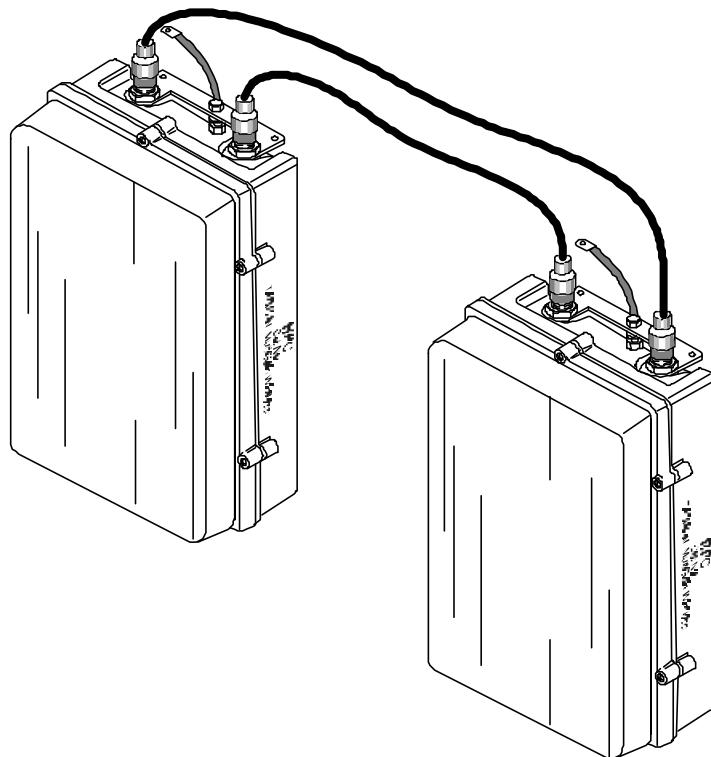
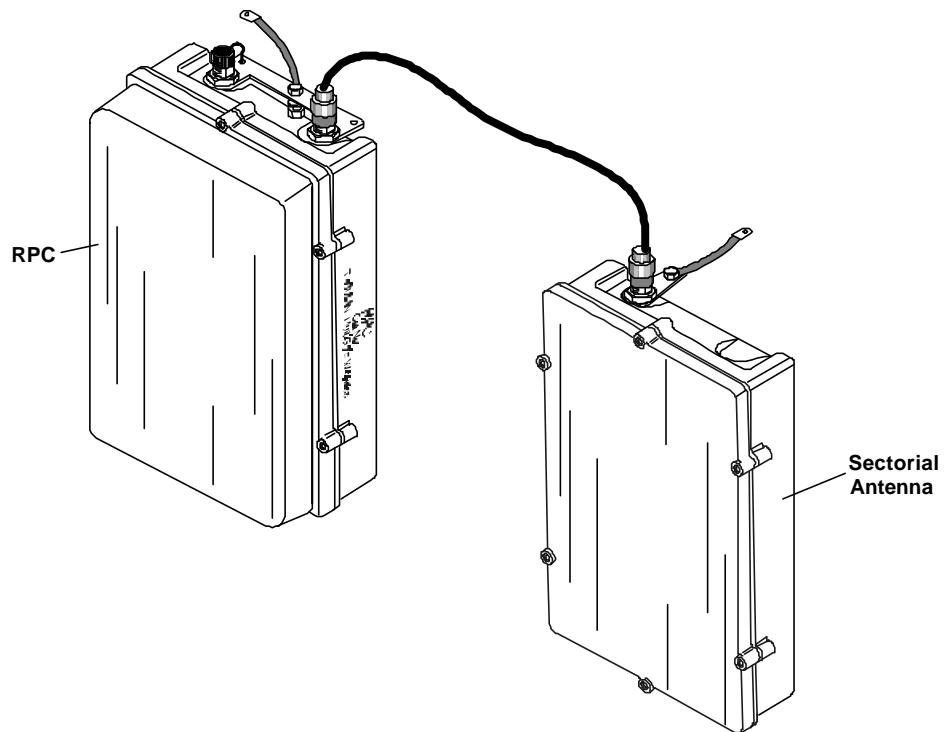

Figure 4-1. Dual RPC Configuration, RF Cable Connections
Figure 4-2. Single RPC Radio Station, RF Cables Connections
Every installation including multiple radio base stations heading in the same direction, includes pairs of RPC's mounted on poles or on towers. The RPC's are interconnected as shown in Figure 4-1.
A single radio base station with space diversity comprises an RPC and a sectorized antenna connected as shown in Figure 4-2.
- One or two pairs of RPC's connected according to Figure 4-1. In this configuration, four RPC's can be attached to the H-support by means of special tilt assemblies, which enable to direct the main beam of the internal antennas in horizontal direction and below the horizontal, up to -18.5°.
- One pair of RPC's connected according to Figure 4-1 and a single-RPC radio station (including an RPC and an external sectorized antenna) connected according to Figure 4-2. In this configuration, the RPC's and the external antenna can be attached to the H-support by means of special tilt assemblies, which enable to direct the main beam of the internal and external antennas in horizontal direction and below the horizontal up to -18.5°, as described in Table above.
- One pair of RPC's connected according to Figure 4-1 and a single-RPC radio station, including an RPC connected to two external sectorized antennas. In this configuration, the RPC is attached to the RPU attachment plate by means of a fastener and the external antennas are attached by means of tilt assemblies.